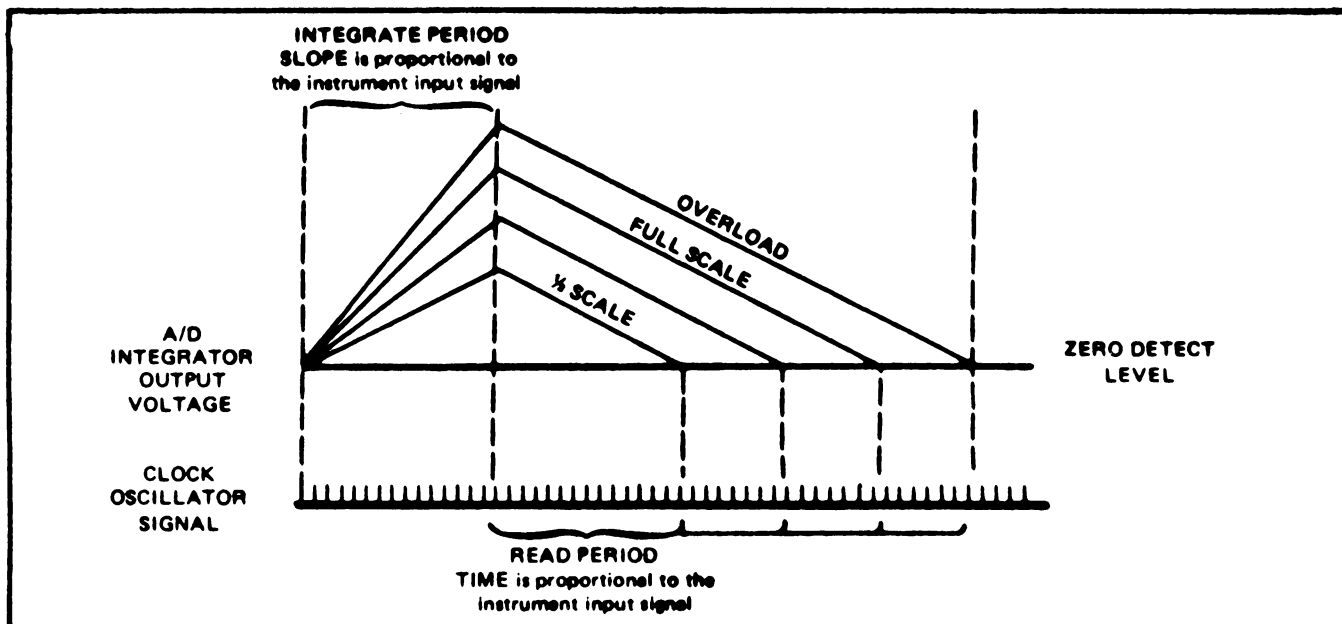

Figure 4-6. Timing diagram for dual-slope A/D conversion.
**A/D Converter.** A dual slope integration technique is used in the 8800A. The A/D converter receives the DC voltage output from one of the input signal conditioners and integrates it for 100ms. Figure 4-6 is an illustration of the output of the A/D integrator. The slope of the integrator output voltage during the integrate period is proportional to the input applied to the instrument. At the end of the integrate period, the signal conditioner DC voltage is disconnected from the A/D input; and a DC reference voltage, of opposite polarity, is connected to the input (start of the read period). The A/D converter then integrates the reference voltage so that the slope of the read period is always constant. Since the read period slope is held constant, the time required for the A/D integrator output voltage to return to the zero detect point is then proportional to the instrument input.